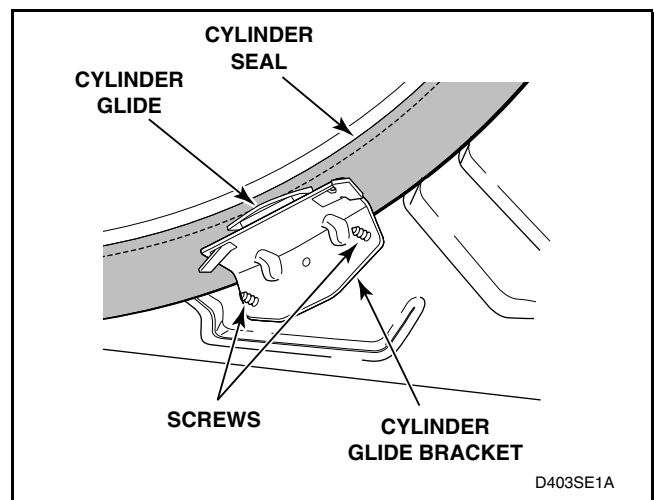

Figure 29
- Cylinder Glides and Glide Bracket. Refer to *Figure 29*.